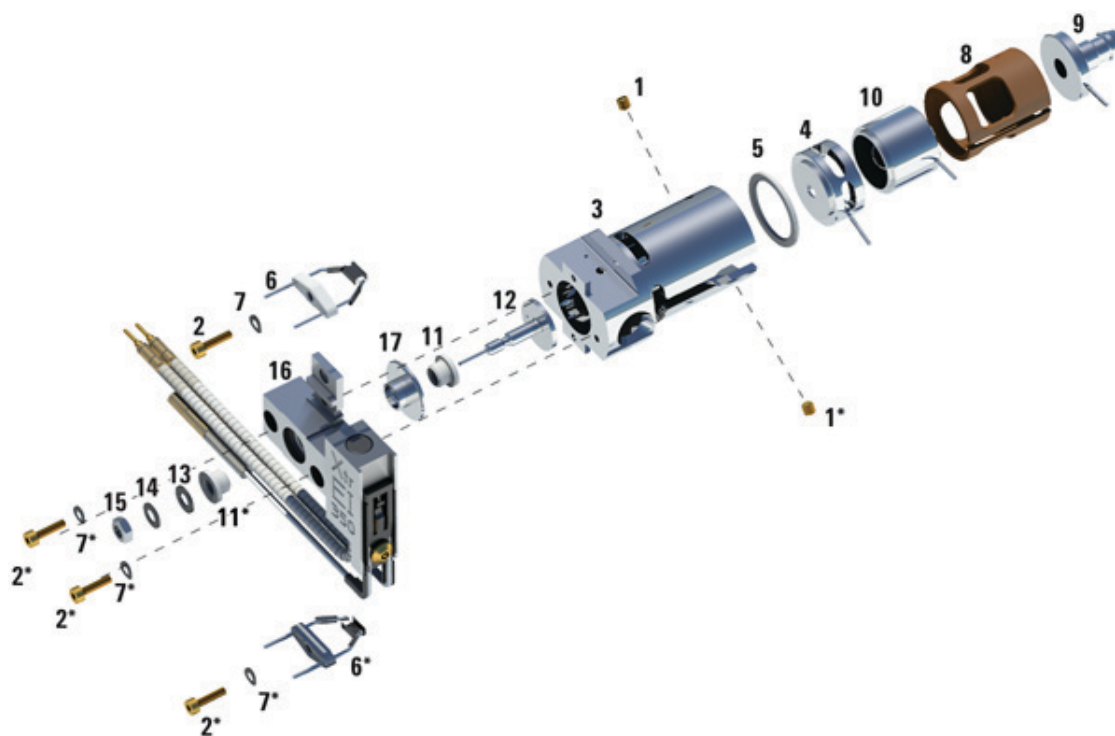

Figure 25 Assembling the EI ion source
- 1 Assemble the ion focus lens, entrance lens, and lens insulator (Figure 25).
- 2 Attach the extractor lens insulator to the extractor lens, and slide them into the source body (Figure 25).
Table 18 Parts list for EI ion source (Figure 25)
Table 18 Parts list for EI ion source (Figure 25) (continued)